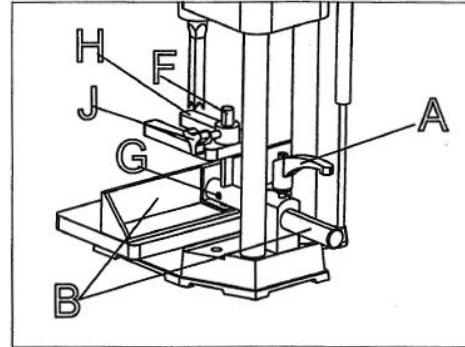

Fig. 7
See Fig. 7. Locate the handle assembly and remove screw (A) and spring (B) from handle (C). Separate handle (C) from stud (D).